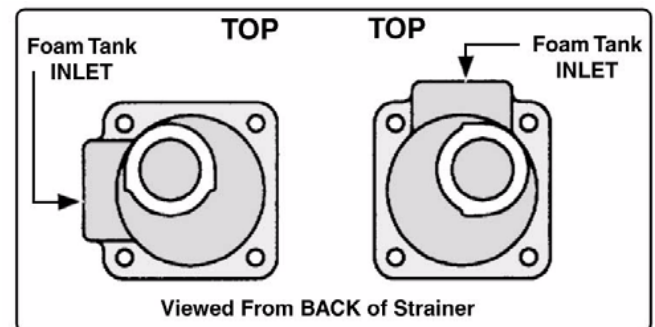

Figure 35: FS Strainer Orientation
2. When selecting the strainer location make sure there is sufficient space behind the pump panel to attach hoses and fittings. Also make sure the inlet connection port is oriented correctly (**Figure 35**).
8. Make sure the strainer is properly oriented (**Figure 35**). Apply Loctite #242 Threadlock Compound (or equal) to the screws then secure the strainer body and nameplate to the apparatus. Install the strainer cap.